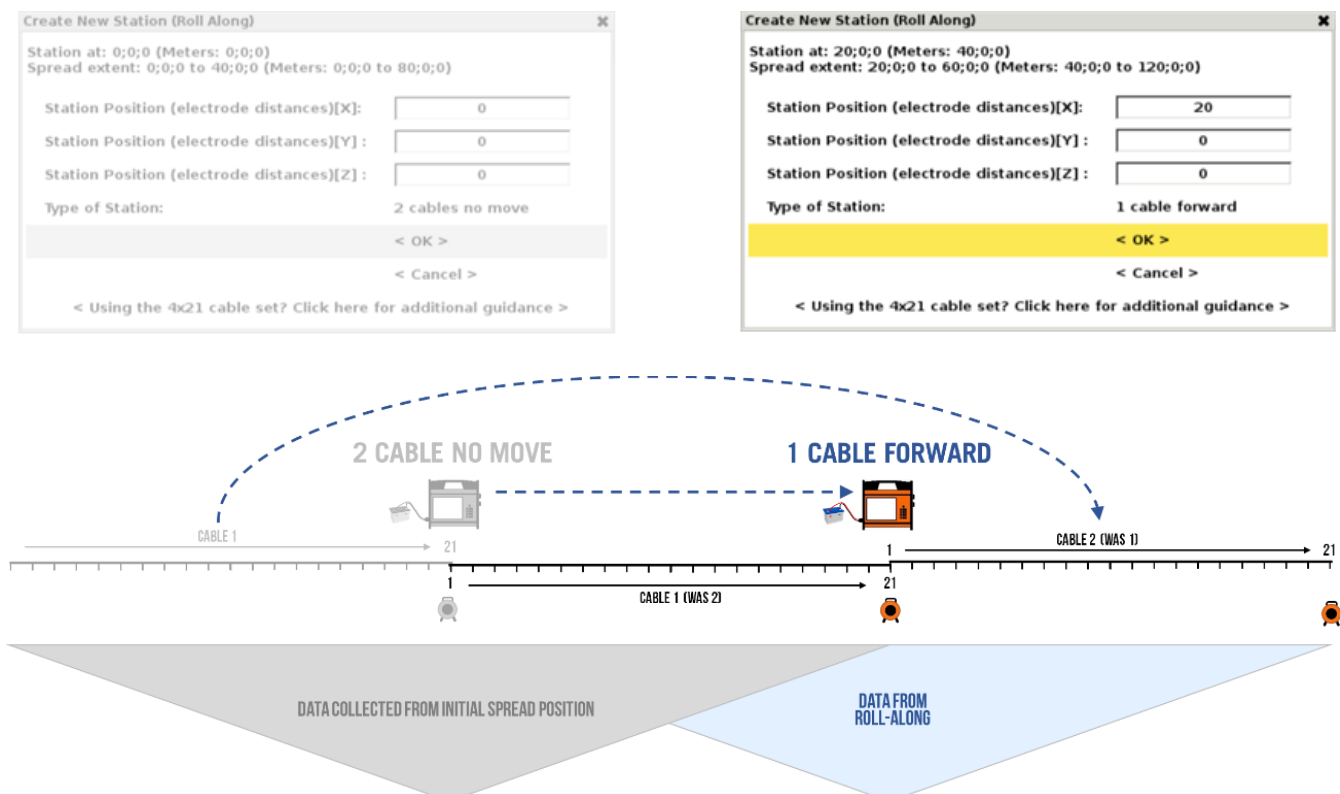

Figure 116 Roll-along on 2x21 cable set
- At this stage it is possible to ‘roll-along’ by returning to the “Create New Station” window and accepting the “1 cable forward” option. On the ground, Cable 1 and all its electrodes should be moved to the far end of Cable 2, and the instrument repositioned in the middle of the new cable spread position (Figure 116 Roll-along on 2x21 cable set).